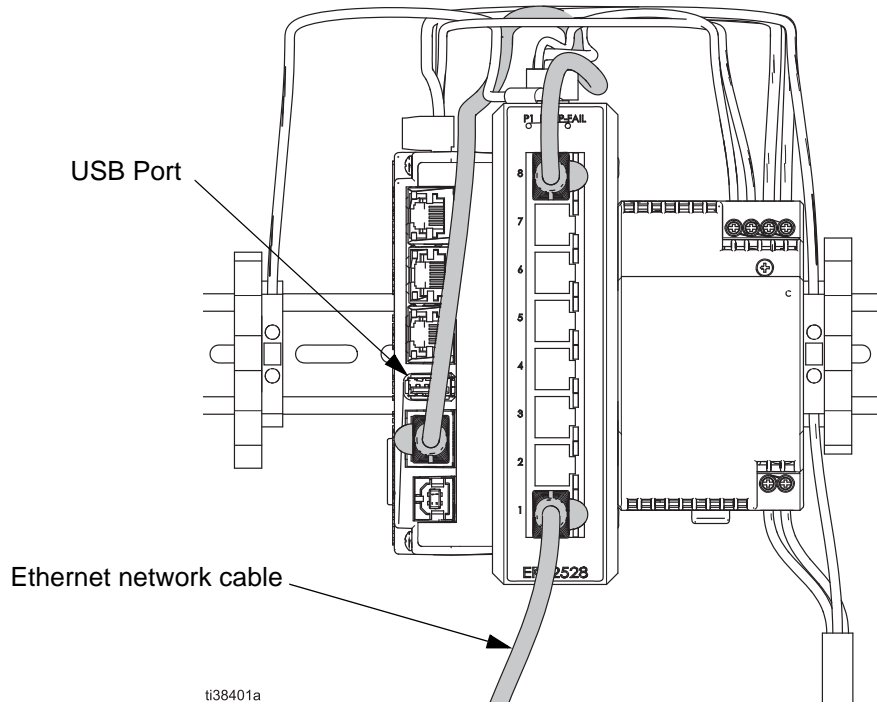

FIG. 8: Gateway Ethernet Assembly w/Ethernet Switch Cable Connection Points - Model 25B489
- An ACS controller can use an RS485 or EtherNet switch; determine the protocol to be used and make the appropriate connection. See FIG. 8.